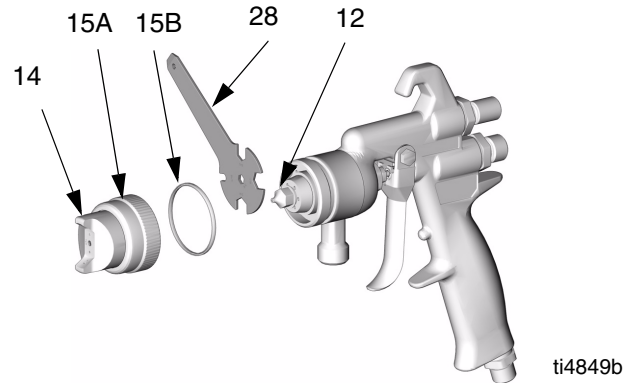

FIG. 24
4. Trigger the gun while you remove the fluid nozzle (12) with the gun tool (28). See FIG. 24.
5. Remove the screw (11), pin (17), wave washer (18), and trigger (10).